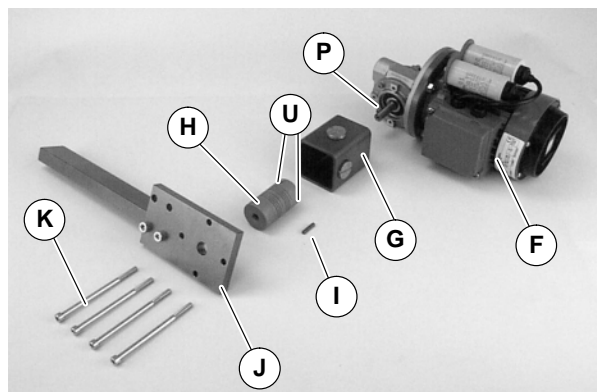

Figure 6
4. Attach flex coupling (H of Figure 6) to gearmotor shaft. Tighten set screws (U).
5. Install key (I of Figure 6) in gear reducer shaft (P).
6. Attach guard tube (G) and gearmotor support assembly (J) to gearmotor assembly (F) with screws (K). Tighten screws (K) to 50 in-lb (5.6 Nm).